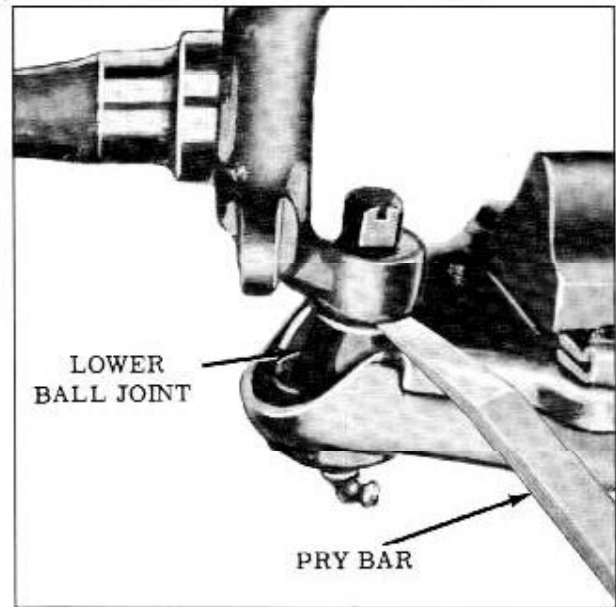

Fig. 5-9 Checking Lower Ball Joint
2. Pry steering knuckle upward as shown in Fig. 5-9.